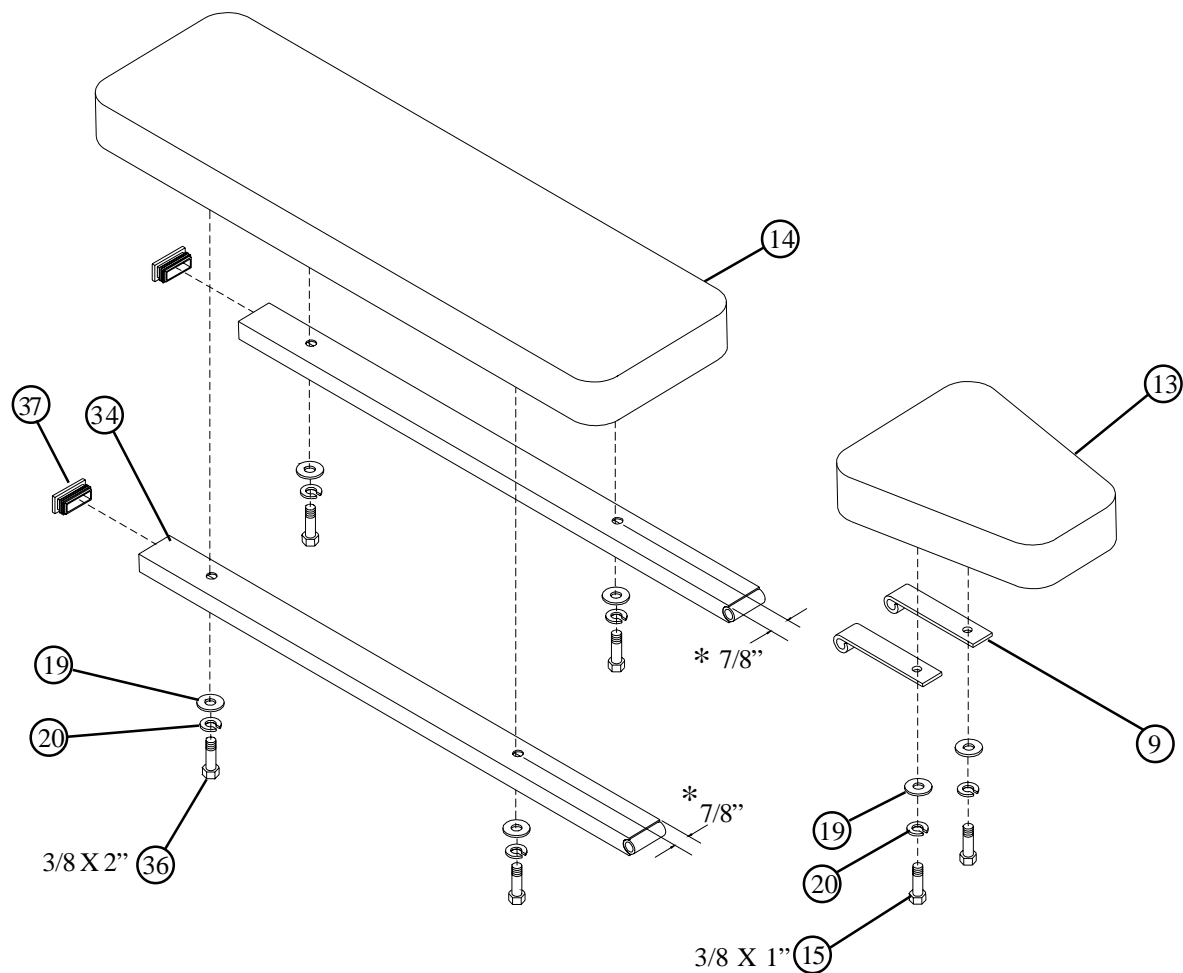

**FIGURE 4**
- Attach eight PARAGLIDE STRIPS (31) to both UPRIGHT TUBES on the UPRIGHT FRAME (1) (FOUR ON EACH END) as shown in FIGURE 4 using the following steps:
- Attach eight PARAGLIDE STRIPS (31) to each SADDLE (6) (FOUR ON EACH END) as shown in FIGURE 4.
- Slide two 1-1/4 X 5" GRIPS (30) over the DIP HANDLES of both SADDLES (6). **(IF A LUBRICANT IS REQUIRED, COAT THE INSIDE OF THE GRIP WITH RUBBING ALCOHOL.)**
- Pull back the SPRING PIN on the UPRIGHT TUBES, and insert the SADDLES (6) as shown in FIGURE 4.. Slide the SADDLE (6) down to the desired height and release the SPRING PIN into the hole.
- Secure the SADDLES (6) in place with two THUMBSCREWS (29) as shown in FIGURE 4.
- Attach two THUMBSCREWS (29) to the DIP TUBES on the UPRIGHT FRAME (1) as shown in FIGURE 4. When ready to perform the DIP EXERCISE, simply insert the SADDLES (6) into the DIP TUBES and tighten the two THUMBSCREWS